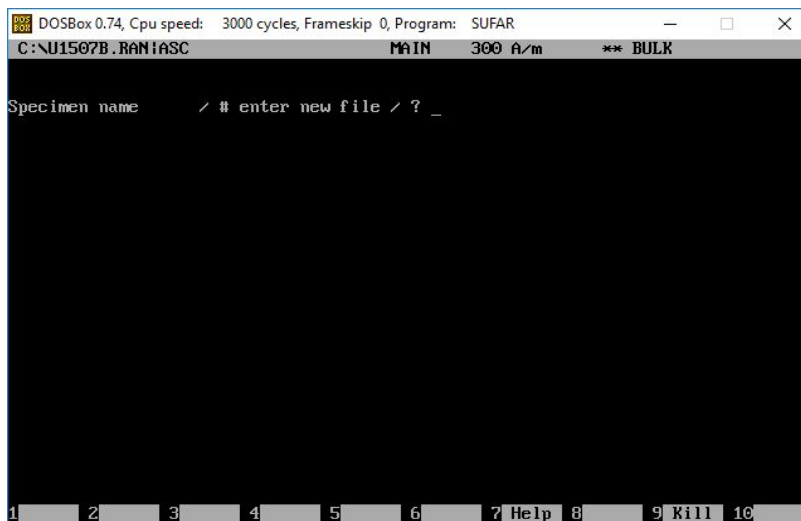

Figure 23. Sufar prompt window after initial file has been set
- a. The saving process will look different after the first measurement is made. The program will only prompt the user for a specimen name (Figure 23).